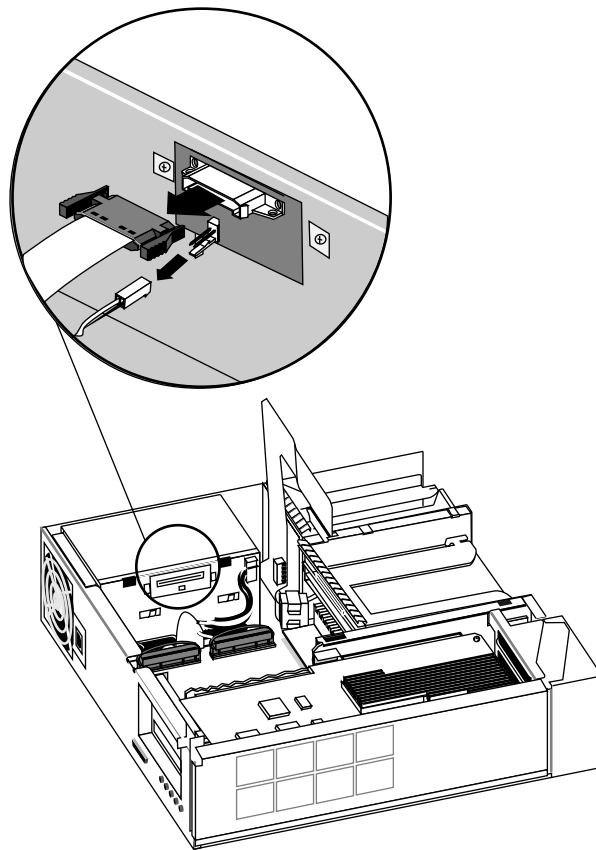

Figure 5-67 Disconnecting the Power Cables From Their Storage Site
1. Disconnect the power supply cables from their storage site on the power supply. See Figure 5-67.